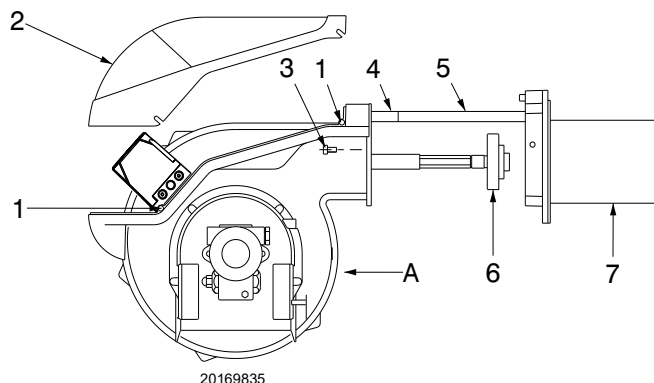

Fig. 37
- loosen the screws 1)(Fig. 37) and remove the hood 2);